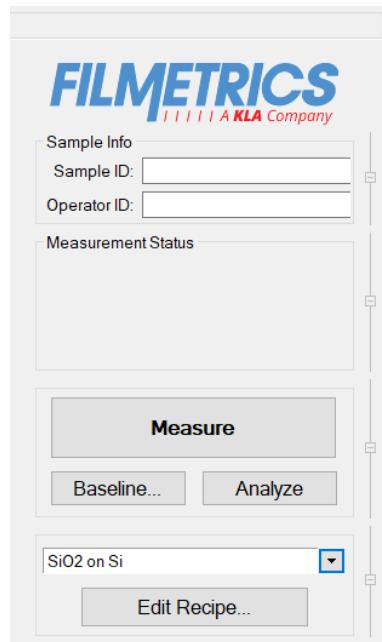

Figure 7. Operation Tab of FILMeasure Software
6. In the FILMeasure software, click “Baseline” as shown in Figure 7.